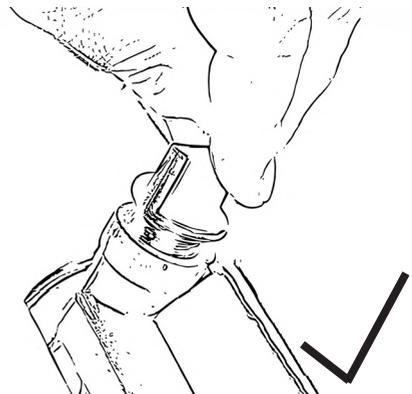

Figure 21
- Unscrew the oil filler plugs with connected dipstick, Fig. 21.